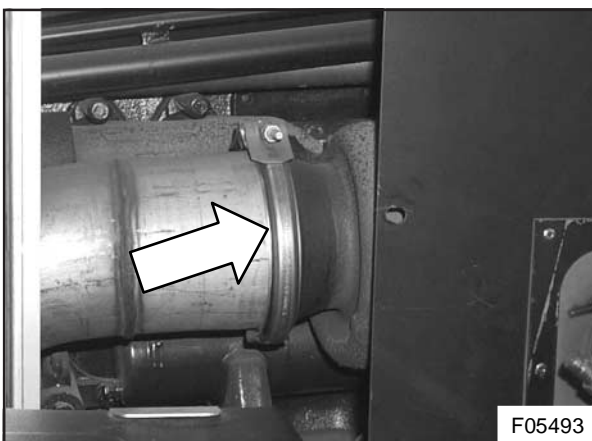

Figure 1: Downpipe to turbo exhaust clamp
- 3) Undo and remove the clamp securing the exhaust downpipe to the turbo (see Figure 1).